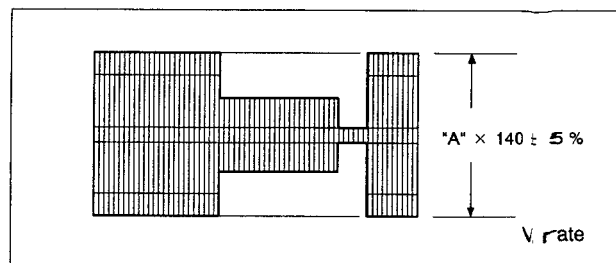

Fig. 3-1-19 SP REC color level
- 6) Adjust R51 repeatedly in recording so that the higher channel level is $"A" \times 140 \pm 5 \%$ in playback, as in Fig. 3-1-19.